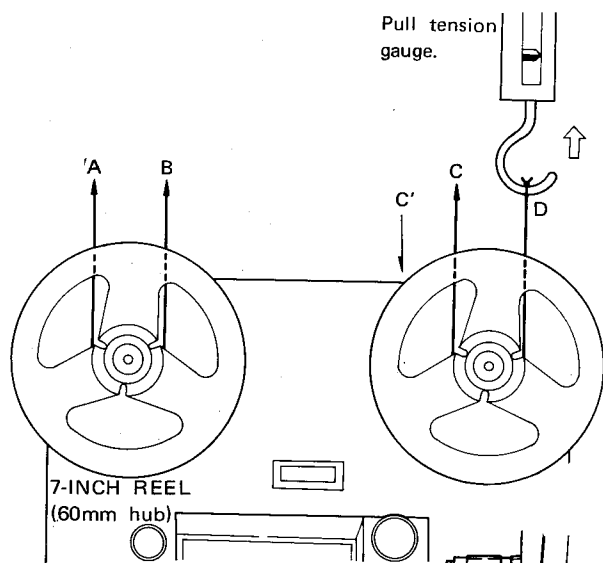

Fig. 11
● Back Tension Torque at Playback (Figs. 11, 12)
2. Set tape deck in vertical position in playback mode at 7-1/2 ips (19cm/s). Measure back tension of supply reel base by pulling tension gauge in B direction as shown in Fig. 11.
● Take-up Torque at Playback (Figs. 11, 12)
2. Set tape deck in vertical position and in playback mode at 7-1/2 ips (19cm/s). Measure take-up torque of take-up reel base (While moving tension gauge slowly in C' direction as shown in Fig. 11, read value of the gauge.)
● Back Tension Torque at Fast Forward (Figs. 11, 12)
1. Set tape deck in vertical position in fast forward mode. Measure back tension of supply reel base (pull in B direction as shown in Fig. 11).